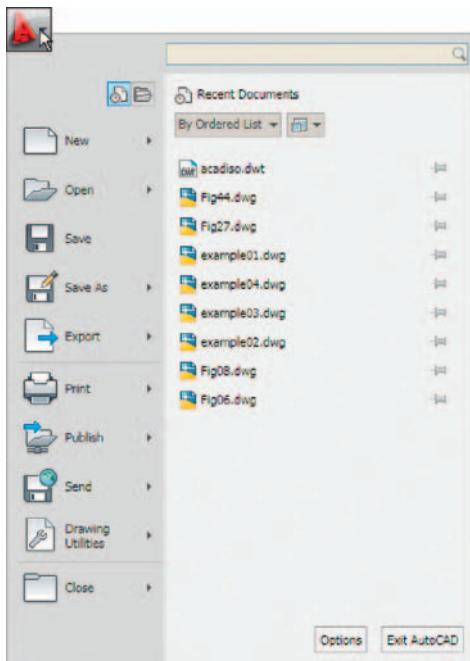

Fig. 1.4 The Menu Browser
**Menu Browser** icon: A *left-click* on the arrow to the right of the A symbol at the top left-hand corner of the AutoCAD 2011 window causes the **Menu Browser** menu to appear (Fig. 1.4).